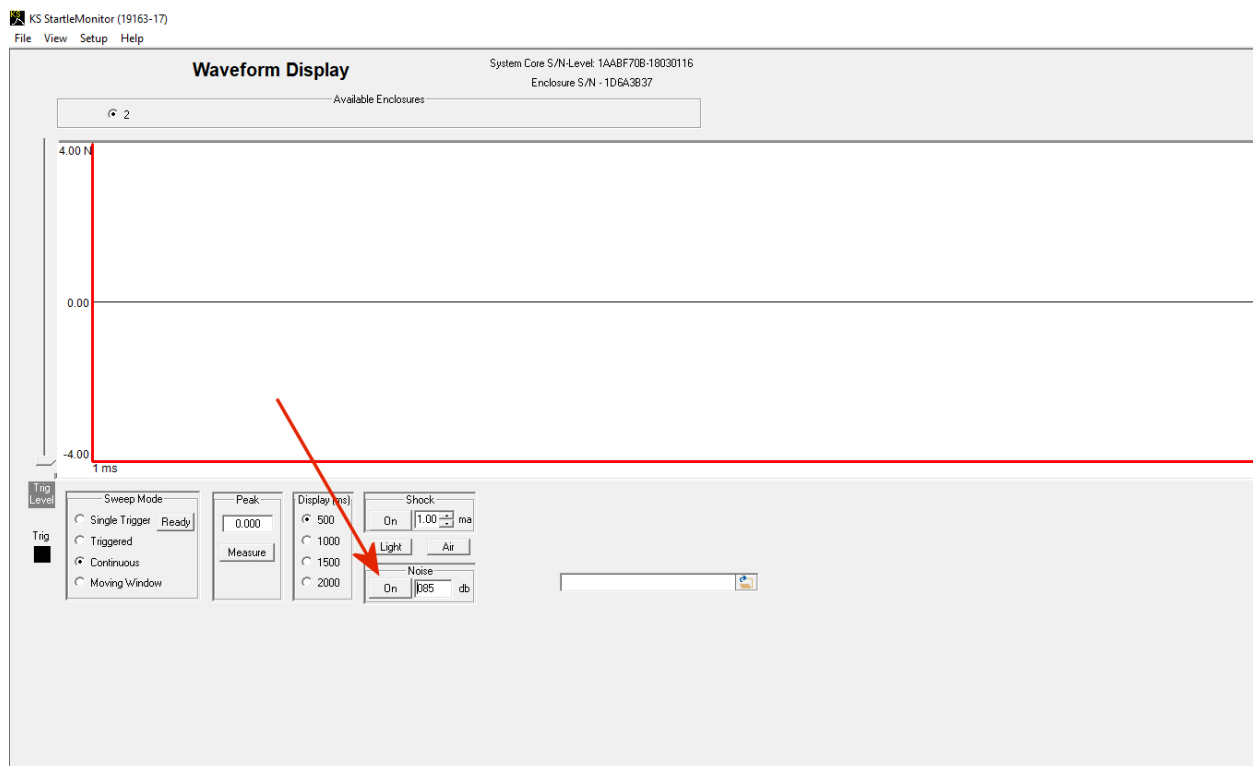

Figure 40 Diagnostic Screen Noise Level “On” Button
6. Click the On button in the Noise window indicated by the red arrow in the screen shown above (Figure 40). Note the reading on the Sound Pressure Meter.